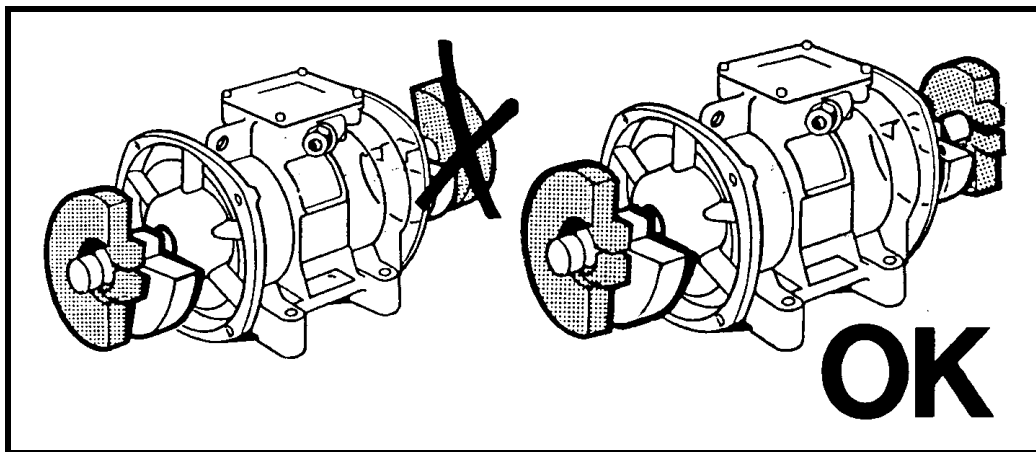

Figure 8. Setting Sets of Eccentric Weights to Mirror Images
3. Make sure both sets of weights are set to same setting number so they are mirror images, as shown in Figure 8.